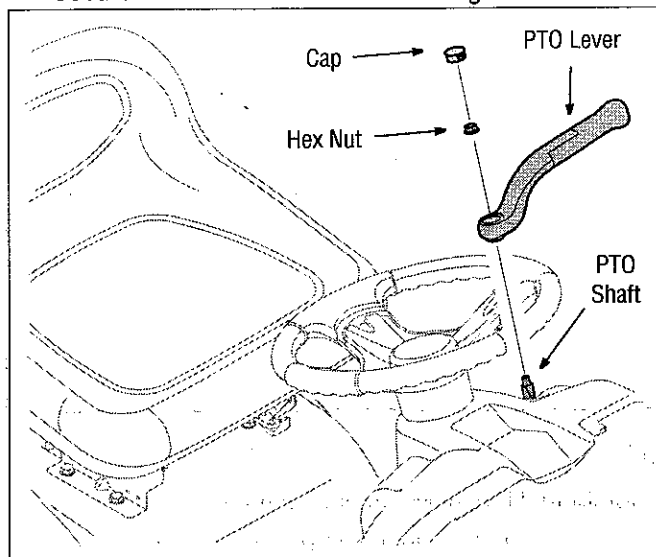

Figure 4
1. Position the PTO lever on the PTO shaft and secure with the hex lock nut. See Figure 4.